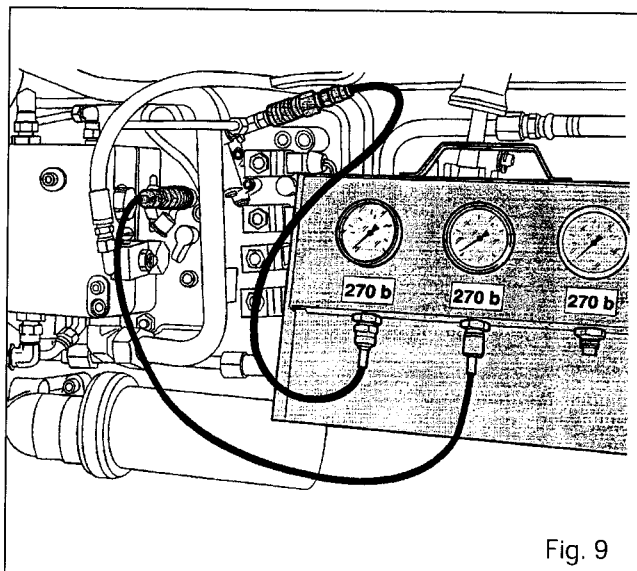

Fig. 9
- Connect a pressure gauge to each diagnostic connector (Figures 9 and 10) located: